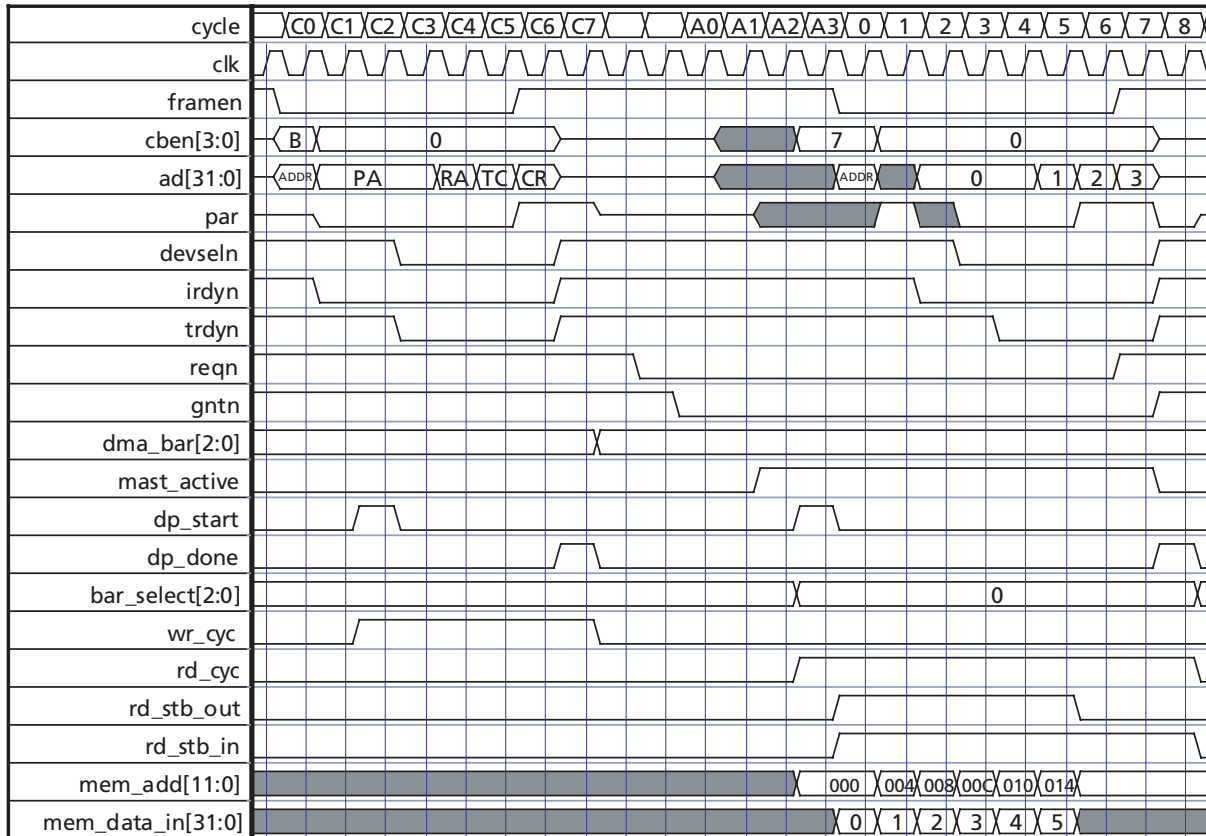

Figure 6-33 · DMA Burst Read Cycle Including DMA Start Sequence
Initially, a PCI Master writes to the four DMA control registers (cycles C0 to C7 in Figure 6-33). Three clock cycles after the control register (CR) is written, the core asserts its PCI request signal REQN. When the PCI arbiter grants the bus and the bus is idle, several clock cycles later the core initiates a PCI cycle asserting the MAST\_ACTIVE output. See cycle A2 in Figure 6-33.